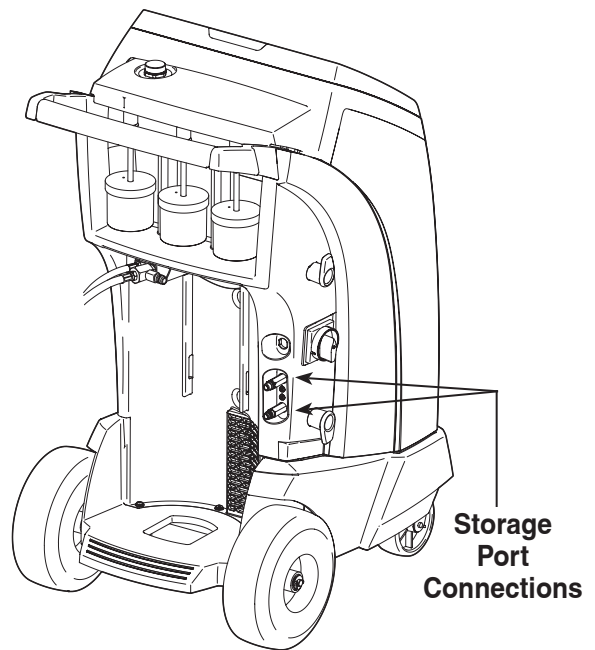

Figure 8
1. Connect the service hoses to the machine's storage port connections (shown in Figure 8).